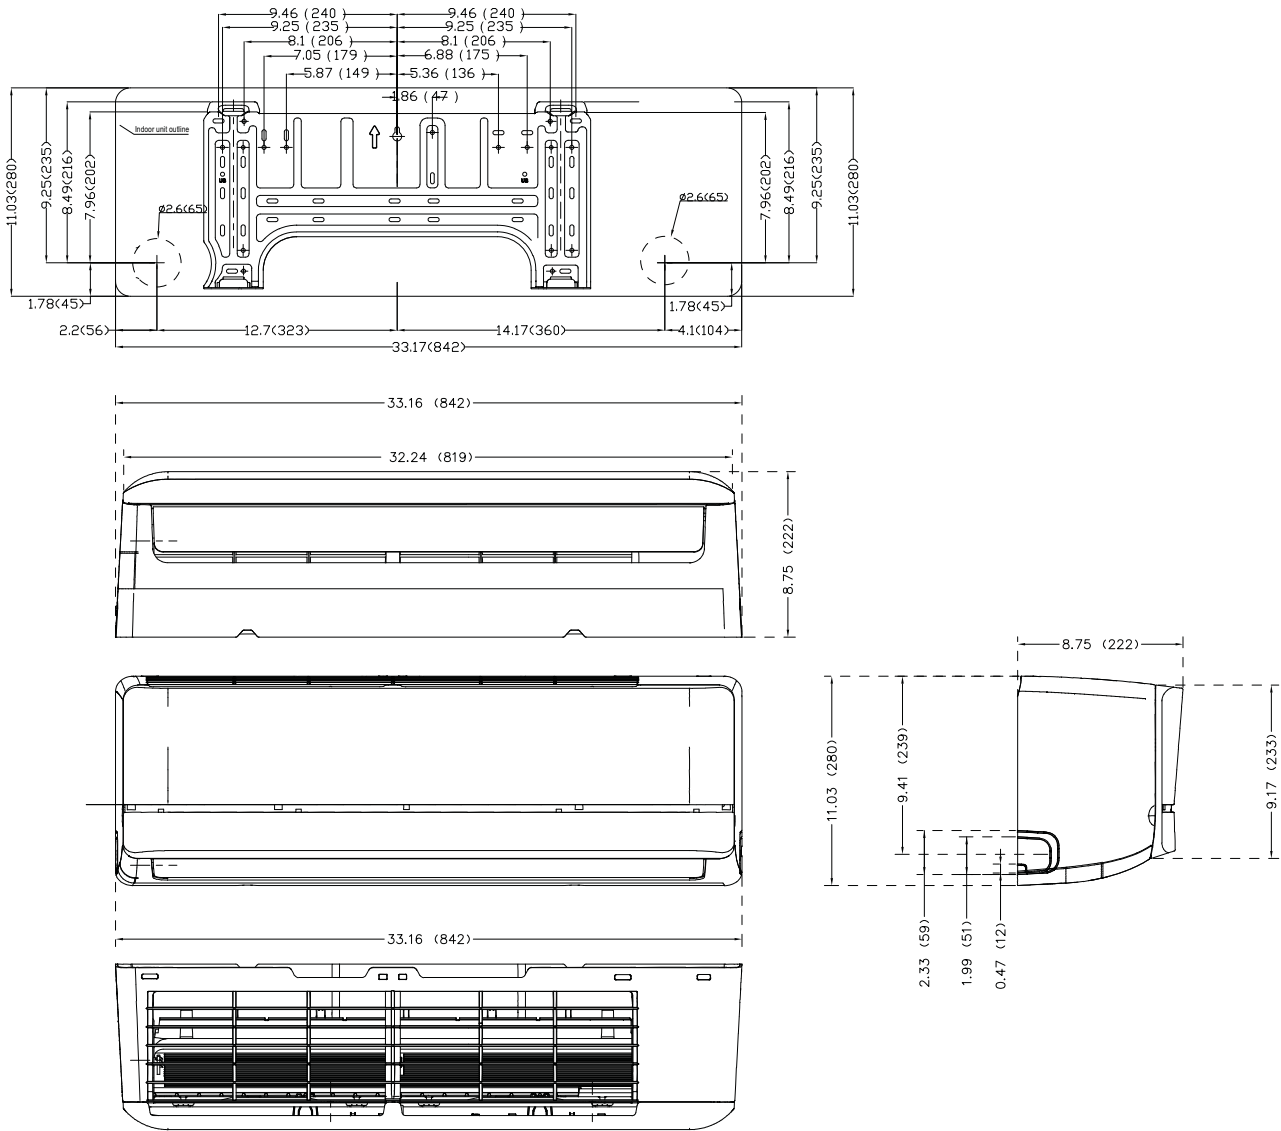

Fig. 3 – 9K and 12K
1. Determine the pipe hole position using the mounting plate as a template. Drill the pipe hole diameter per values given in Fig. 3. The outside pipe hole is 1/2-in. (13 mm) min. lower than the inside pipe hole, so it slants slightly downward (see Fig. 8).